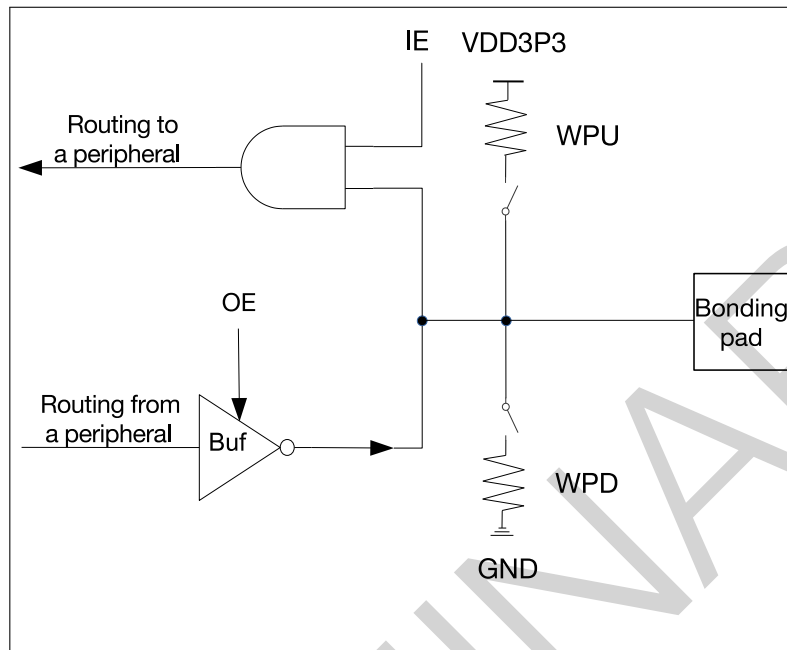

Figure 4-3. Internal Structure of a Pad
- Figure 4-3 shows the interface logic for a GPIO pin.
Figure 4-3 shows the internal structure of a pad, which is an electrical interface between the chip logic and the GPIO pin.